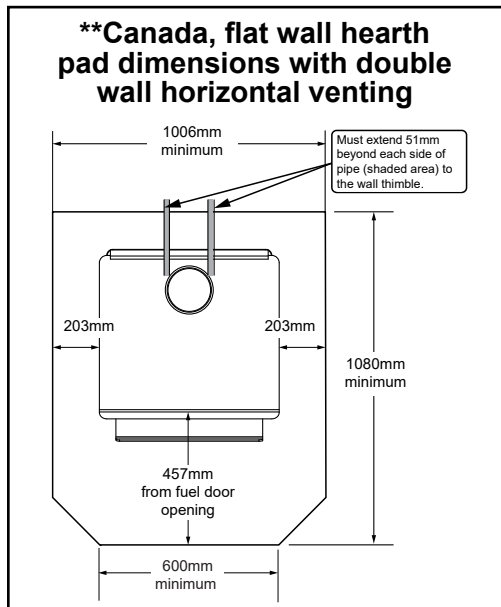

Figure 9.2 - **These dimensions will vary depending installation.
In Canada, similar floor protection must be provided 18 inches (457mm) in front and 8 inches (203mm) from the sides and rear of the appliance unless the hearth pad is placed against the wall (**Figure 9.2**). Then the clearance may be reduced using double wall pipe and the Clearance to Combustibles.
***Exception:** Non-combustible floor protector must extend beneath the flue pipe when installed with horizontal venting and extend 2 inches (51mm) beyond each side (**Figure 9.2**).